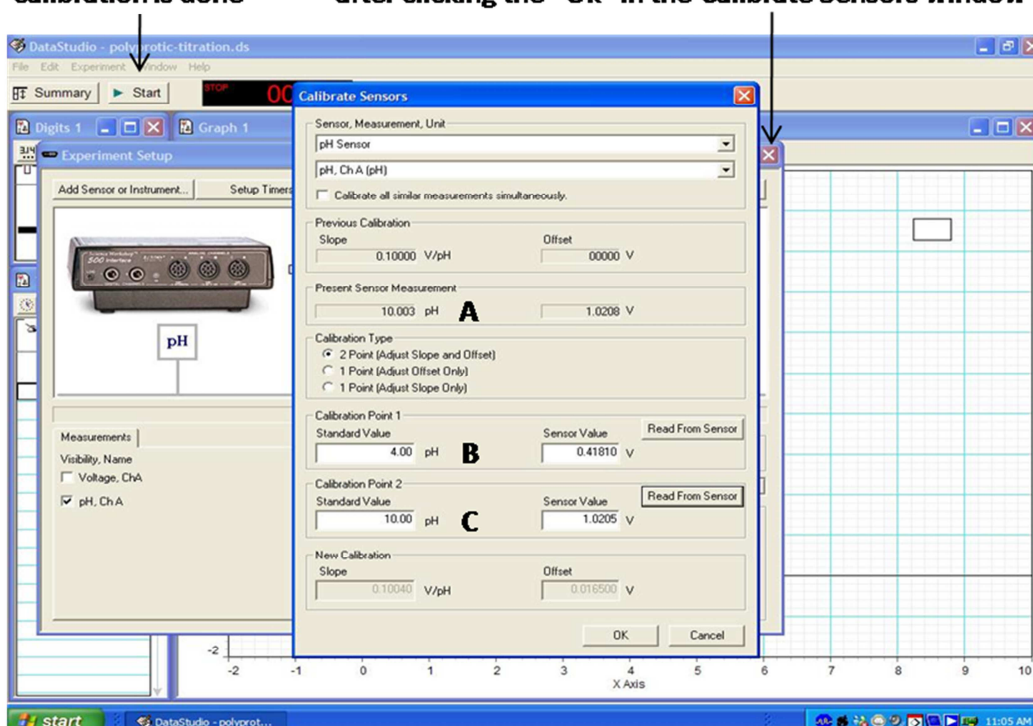

Figure 1: Calibration screen
- Minimize Firefox and double click the Outreach-Polyprotic.ds file. This will open up DataStudio. Click on the Calibrate Sensors button to open the screen shown in Figure 1. The instructions for the software below start on this screen.
Calibration of pH electrode (see Figure 1)
4. The computer software should already be opened to the calibration screen shown in Figure 1 (see above and ask for assistance if it is not). The pH that the electrode is reading is displayed in box A. Enter "4.00" in box B and click on "Read from sensor". Make sure the value that appears in box A is approximately 4.0 and stable (not increasing or decreasing). This value will fluctuate, but not more than ± 0.1 pH units. If the value in box A is not close to 4.0 and stable, then click the "Read from sensor" button until it is.
- Repeat the sequence in step 4 of this calibration procedure for the electrode in the pH 10 standard buffer except enter "10.00" in box C (see Figure 1) and click on the adjacent "Read from sensor" button". When this is complete click on the "Ok" in the Calibrate Sensors window, and close the Experiment Setup window by clicking the "X" in the upper right corner (not the "X" in the upper right corner of the application window). The sizes of the Digits, Table and Graph windows can be adjusted by clicking and dragging the bottom right corner of each window, and moved by clicking and dragging the blue banner at the top of each window.